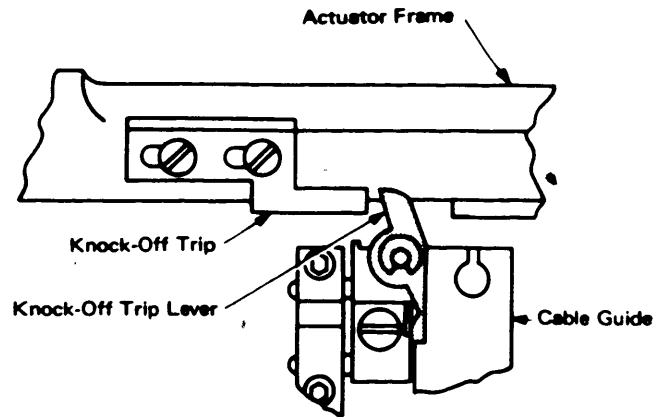

Figure 2-42. Knock-Off Trip and Trip Lever [07563]
7. Remove knock-off trip (Figure 2-42)Fr. B13
7. Remove knock-off trip (see Figure 2-42).
4. Remove knock-off trip (see Figure 2-42) Fr. B13